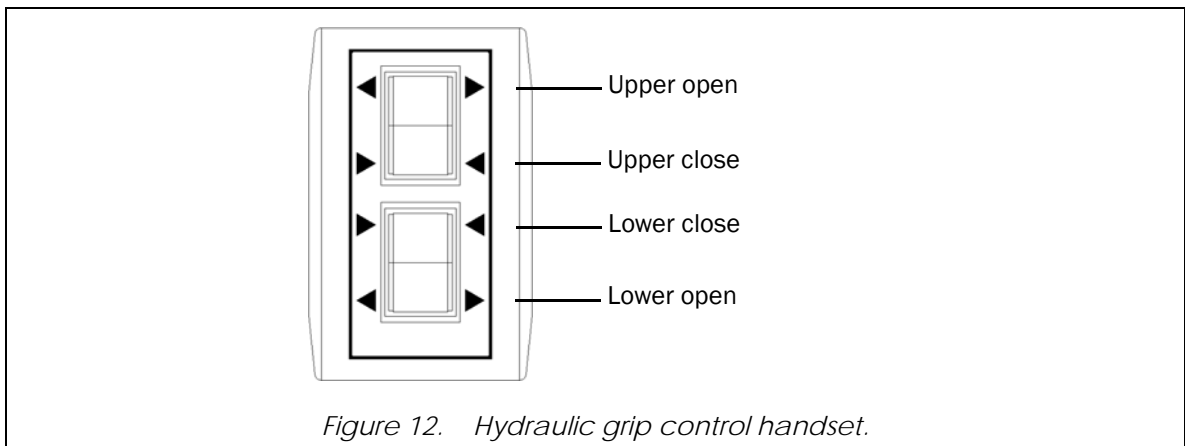

Figure 12. Hydraulic grip control handset.
For G7-style crossheads, the grip assemblies are actuated hydraulically. Components of the grip assemblies are illustrated in Figure 11. The operator uses a grip control handset (Figure 12 on page 32) to operate a hydraulic piston that is inside the crosshead. A push plate (17) is mounted to the piston. As the piston is extended, the push plate lifts the jaw carriers (5) in the grip pocket (15). The wedge shape of the grip pocket forces the jaw carriers and grip jaws to close and clamp the specimen. The grip jaws are held to the jaw carriers by either magnets or retainer setscrews, depending on the frame model. 300DX frames use magnets that are mounted in the jaw carrier recess (5a). The locating boss (4a) fits into the jaw carrier recess and is held by the magnet. 600DX frames use retainer setscrews (13) that are mounted in the jaw carrier. The locating boss (4a) fits into the jaw carrier recess (5a) and the retainer setscrew is tightened against the retainer button (4b). The retainer setscrews are tightened and loosened through an access hole (14) in each front guide plate (6). It is not necessary to remove the guide plate to adjust the retainer setscrew.
A hand-held grip control unit (Figure 12) is supplied to control operation of the hydraulic grips. The unit is magnetically mounted to a bracket on the front left corner of the base plate. The control unit can be removed from its bracket for in-hand use or can be used while mounted to the bracket.
The controls consist of two three-position rocker switches, one to operate the upper grips and one to operate the lower grips. Pressing one end of the rocker switch will actuate the jaws according to the labeling on the control unit (see Figure 12). Each switch operates as a momentary-type when it is in the **Open** position and as a latch-type when it is in the **Close** position. When a switch is placed in the **Open** position and then released, it automatically returns to its **Neutral** position and grip motion stops. When a switch is placed in the **Close** position, it latches in this position and closes the jaws fully. Be sure fingers or hands are not between the grip jaws when closing the jaws. The switch must remain in the **Close** position once the specimen is clamped and during testing. Do NOT place the switch in the **Neutral** position until the specimen has been removed from the grips.